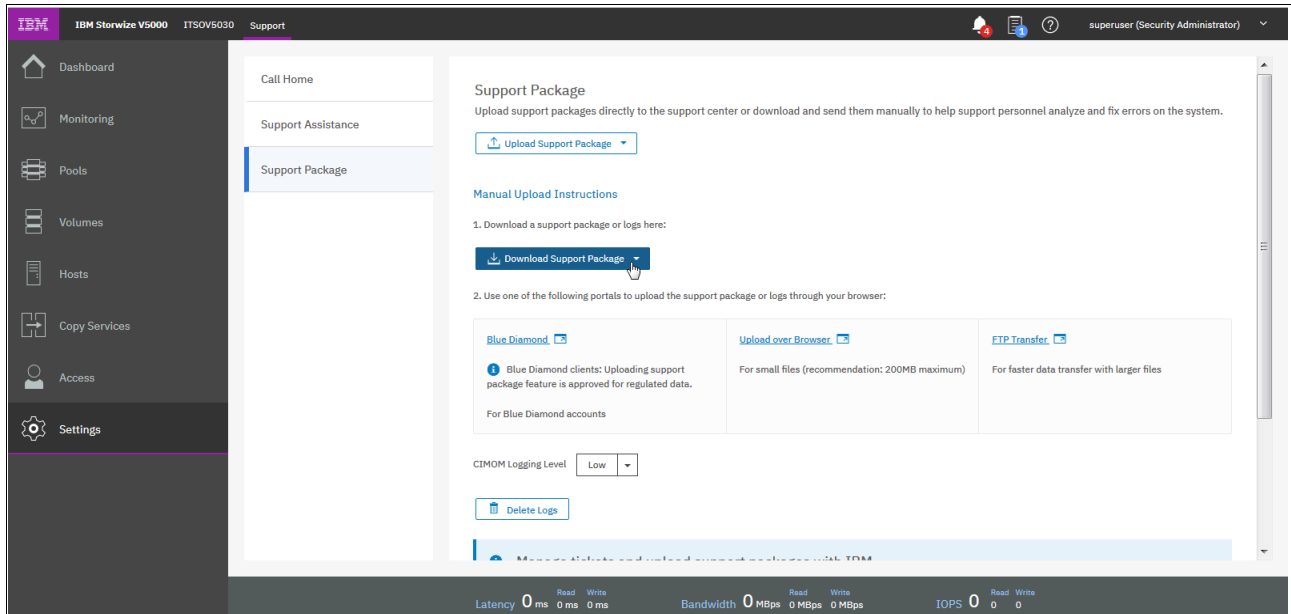

Figure 12-123 Manual Upload Instructions
2. On the Support Package page, see the section **Manual Upload Instructions**, as shown in Figure 12-123.